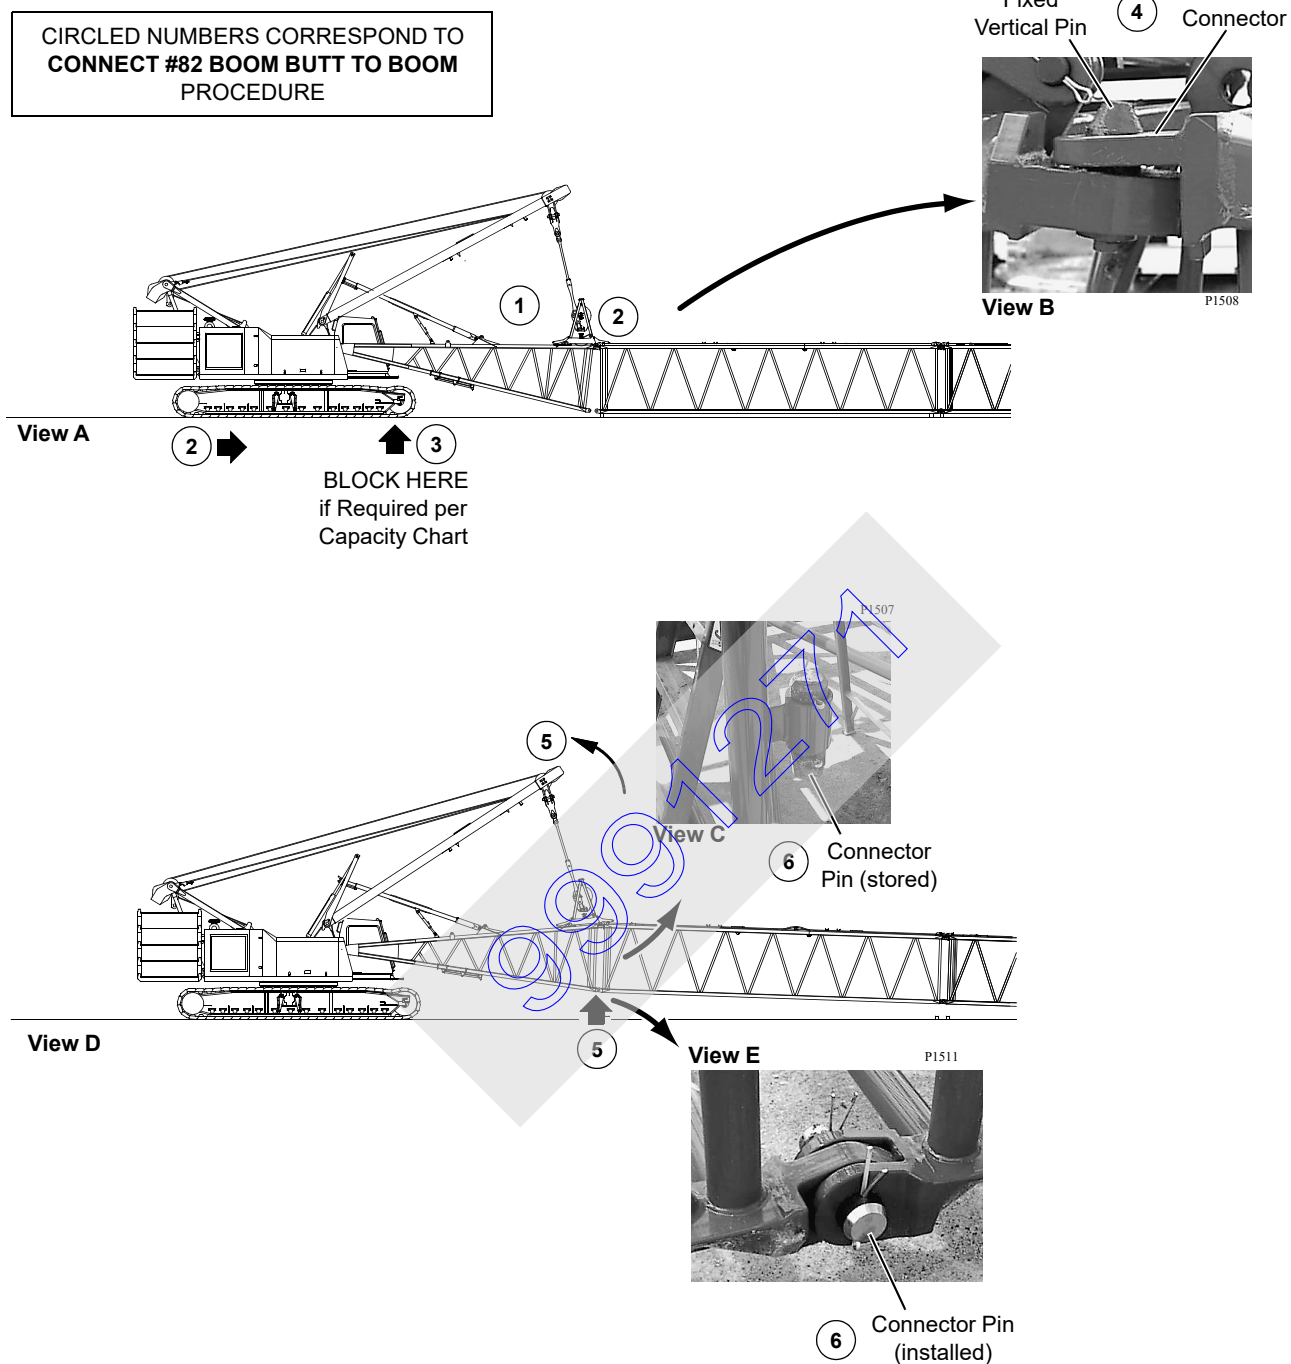

FIGURE 4-18
See Figure 4-18 for the following procedure.
- Electric cable from crane (FIGURE 4-18 continued, View K) to cable reel on boom butt.